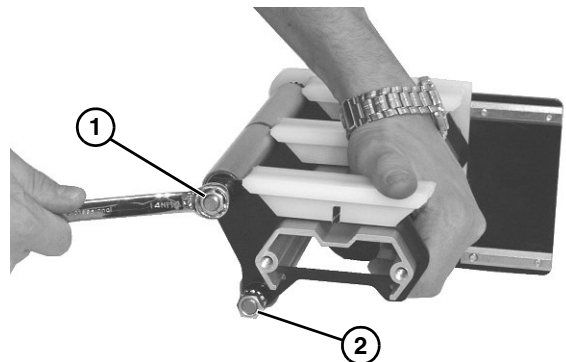

Figure 42
5. Remove upper nut (**Figure 42, item 1**) and spacer from end of axle shaft assembly.
6. Remove lower nut (**Figure 42, item 2**) and spacer from lower axle shaft assembly.